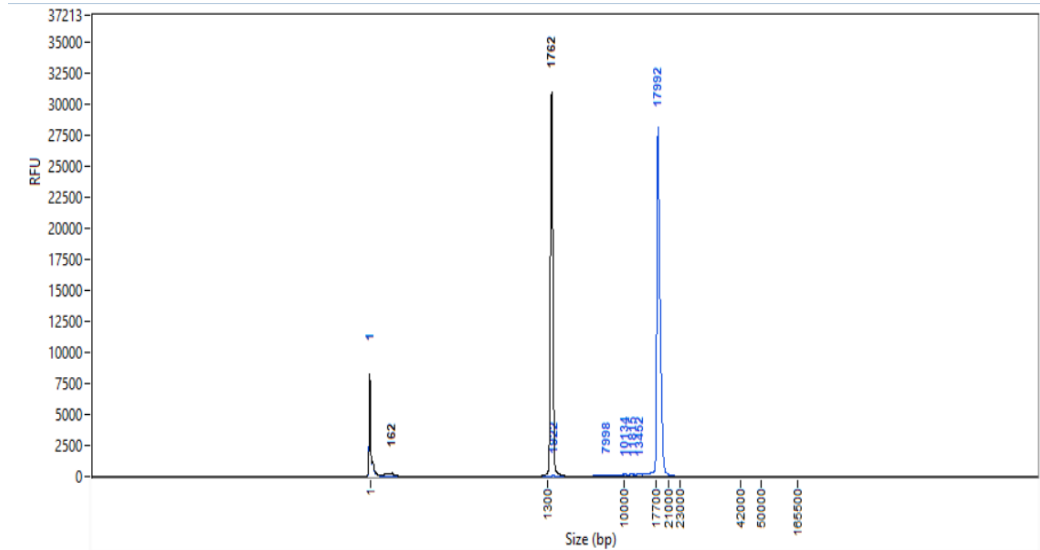

Figure 1. Example Femto pulse QC of the 16S amplicon monomer (~1.5 kb) and 12X concatemer (~18 kb) final SMRTbell libraries.
7.14	Take a 1 μ L aliquot from each tube. Make a 1:5 dilution of the sample in Elution buffer and measure the DNA concentration with a Qubit fluorometer using the 1x dsDNA HS kit. Calculate the total mass. Expect 10–20% recovery of the starting Kinnex-PCR product. Recommended: Further dilute each aliquot to 250 pg/ μ L with EB. Measure the final SMRTbell library size distribution with a Femto Pulse system (Figure 1).